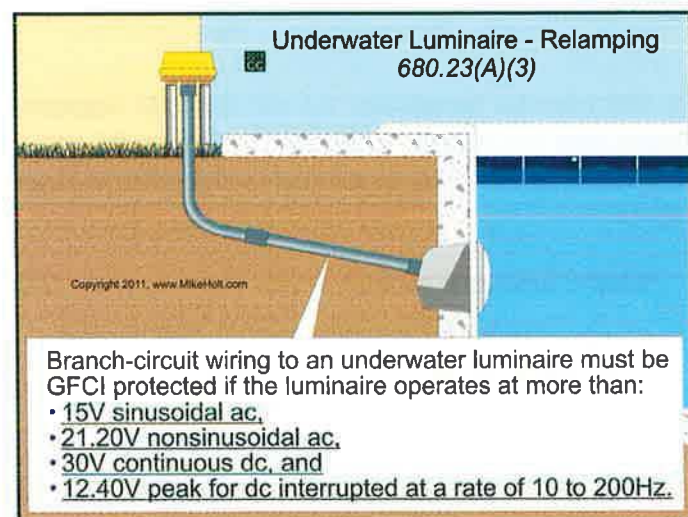

Figure 680-21
(2) Transformers and Power Supplies. Transformers and power supplies for underwater luminaires must be listed.
(3) GFCI Protection of Underwater Luminaires, Relamping. Branch circuits that supply underwater luminaires operating at more than 15V for sinusoidal alternating current, 21.20V peak for nonsinusoidal alternating current, 30V for continuous direct current, and 12.40V peak for direct current interrupted at a rate of 10 to 200 Hz or less [680.2 Low-Voltage Contact Limit] must be GFCI protected. **Figure 680-21**